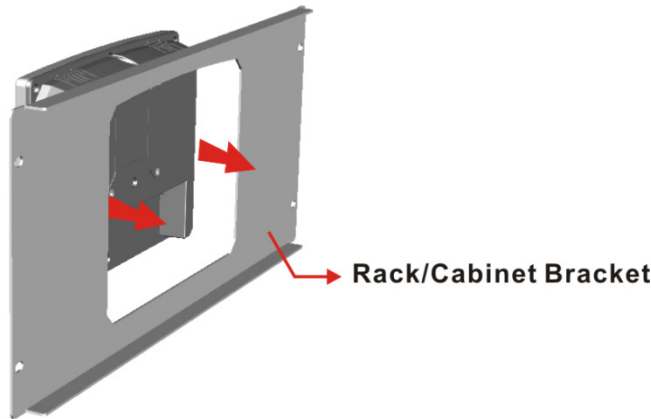

Figure 3-15: Rack/Cabinet Bracket Installation
- Step 1:** Slide the rear chassis of the AFL3-W07A-BT flat bezel panel PC through the rack/cabinet bracket until the frame is flush against the front of the bracket (Figure 3-15).